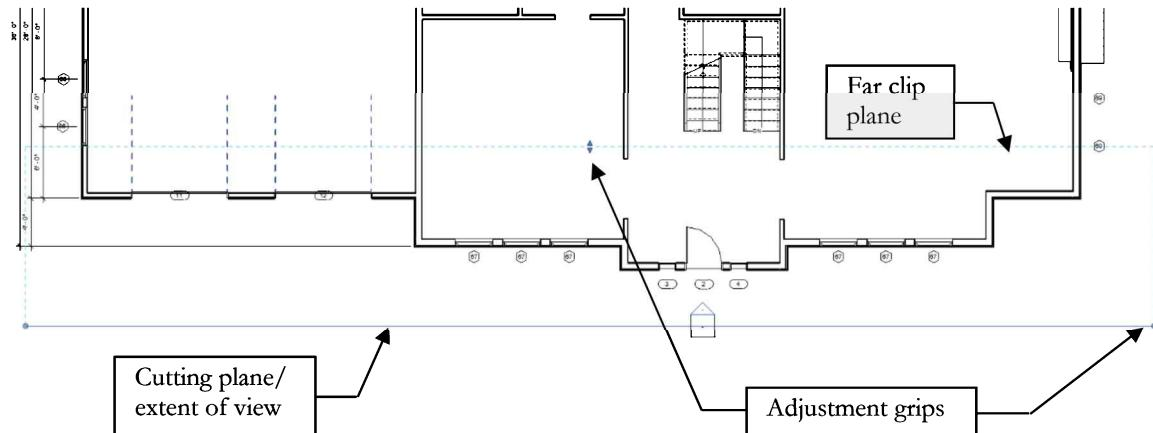
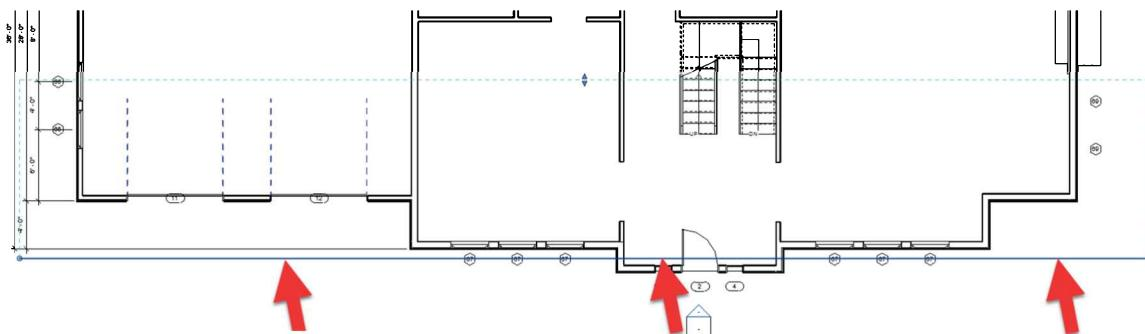

FIGURE 10-1.4 Selected elevation tag
FIGURE 10-1.6 Relocated cutting plane
Your elevation tag should look similar to Figure 10-1.4.
The elevation tag, as selected in Figure 10-1.4, has several features for controlling how the elevation looks. Here is a quick explanation:
12. With the elevation tag still selected (as in Figure 10-1.4), drag the “cutting plane/ extent of view” line up **into** the main entry as shown in Figure 10-1.6.